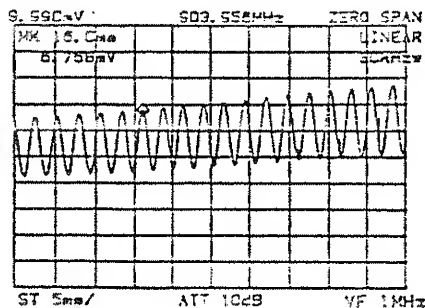

Figure 5-5 Reading the Time Display of Marker
- ⑨ Press the ☐ ^{CTR FREQ} key and turn the  to adjust the signal level to make it the maximum.
- ⑩ Press the ☐ ^{TRIGGER} key and set the trigger mode to VIDEO.
- ⑪ Press the ☐ ^{SAMPLE DET} key and set the sweep time to a value that can be observed easily.
- ⑫ Press the ☐ ^{MARKER} and turn the  to set the marker to the peak of the modulation signal. Keep recording the time indication of the marker at this time (Figure 5-5).